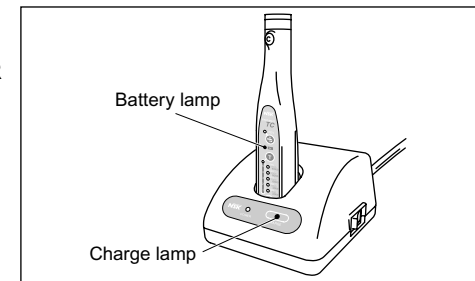

Fig. 13
- ④ Remove the contra angle head from the motor handpiece and mount the motor cap onto it. (Refer to "10. MOTOR CAP") Insert the motor handpiece into the battery charger with the operation panel facing frontward. If the motor handpiece power is on, it will be turned off automatically when inserted into the battery charger. Charging starts with the charge lamp turned on. The battery lamp of the motor handpiece lights. (Fig. 13)